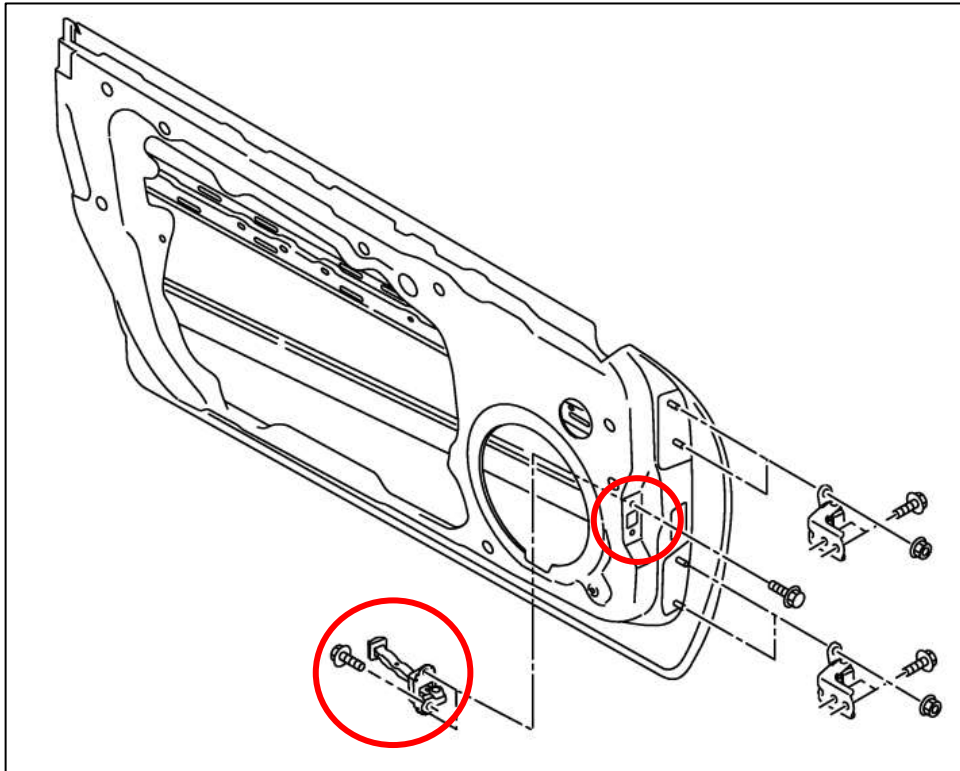

Figure 53
14. Open the Door as wide as you can. Disconnect the (3) three 10mm Bolts that secure the Check Link to the Door and the Body. *Figure 53.*